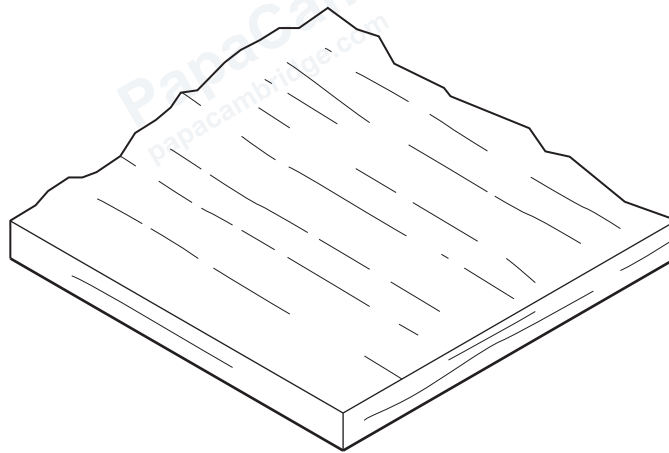

Figure 11.4
- (ii) Figure 11.4 shows the corner of one shelf.
Draw on Figure 11.4 to show how the shelf would need to be modified to fit into the stopped housing. [2]